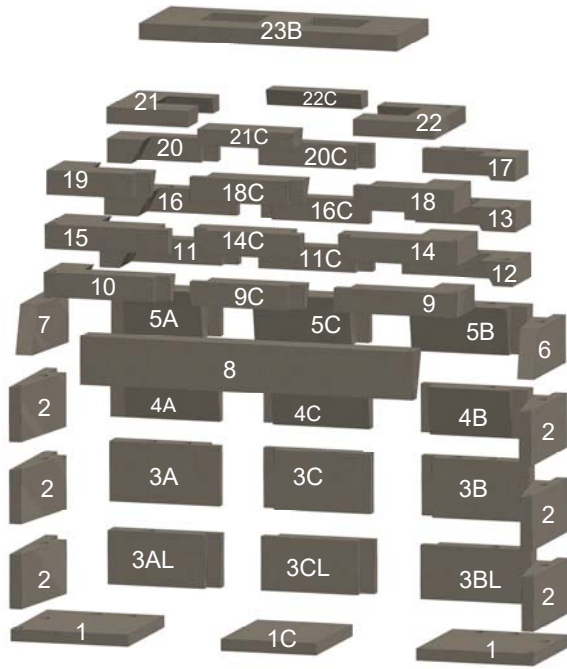
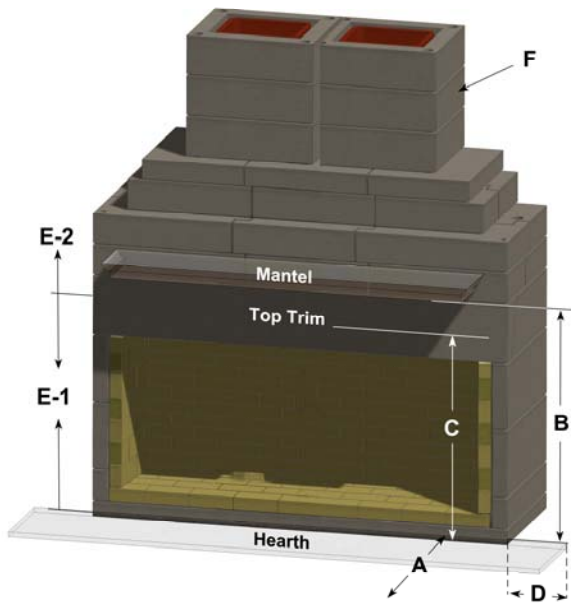

Figure 2. Fireplace Components
Figure 3. Clearances (Use with Table 2)
The fireplace is delivered as a kit with all components necessary to complete the installation. The kit is configured for a flue chimney, but a special adapter is available for a metal chimney. Component arrangement, some of which is optional, is shown in Figure 2. Components are shown in Table 1. Specifications and installation dimensions are shown in Table 2.
- A. Fireplace items shown in Figure 2 and listed in Table 1.
Table 2: Clearances (See Figure 3)
Select a wall location in the home plans where all the minimum distances, as shown in Table 2 and Figure 3 can be met. Proceed as follows. Numbers in () are item numbers from Table 1 and Figure 2. Ensure the base on which the fireplace is to be installed is a solid and level foundation and is composed of non-combustible material, such as concrete.
O. Install the hearth and or hearth extension. Ensure the Table 2 and Figure 3 clearances and distances are maintained. Ensure that the hearth and flooring under and in front of the hearth are made of fully non-combustible materials, not just a non-combustible floor covering. When the hearth installation is complete, you are now ready to install the exterior.